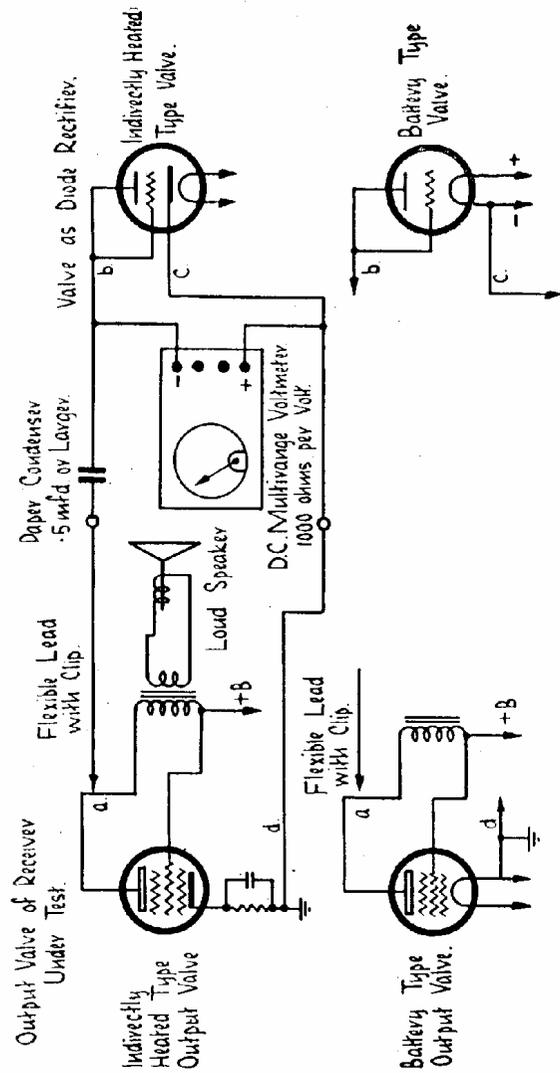

Fig. 2.--Output Meter.
4. Connect an Output meter in the plate circuit of the last valve. See Fig. 2.